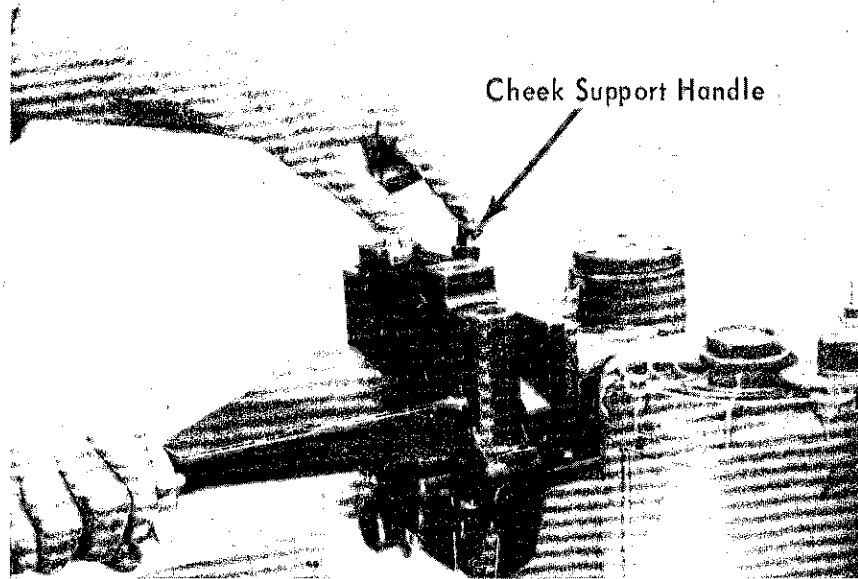

Figure 8
5. Press down firmly on Main Bearing Cap with thumb on left hand. Be sure that parting face of Main Bearing Cap is flat against table, then with left forefinger, depress cheek support handle permitting wedge to drop. Do not force wedge. (See Figure 8).